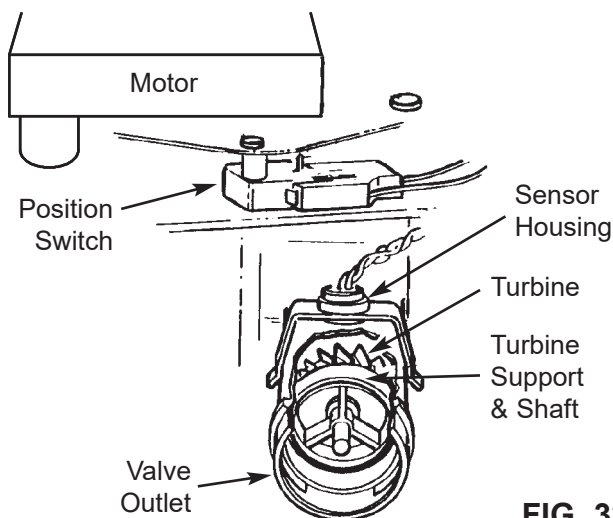

FIG. 32
**NOTE:** If you don't get a reading in the display with faucet open, pull the sensor from the valve outlet port. Pass a small magnet back and forth in front of the sensor. If you get a reading in the display with the magnet, unhook the in and out plumbing and check the turbine for binding (See Figure 32).